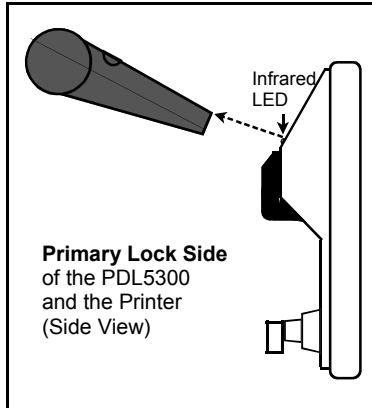
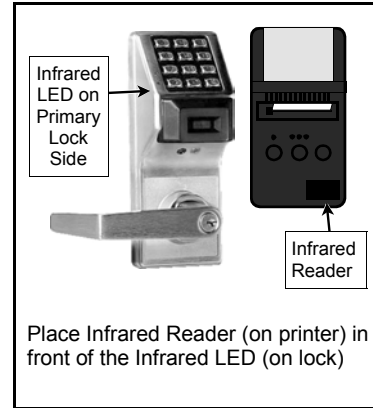

Figure 1
Figure 2
Hold the printer perpendicular to the **Primary Lock side** infrared LED as shown in Figure 1 and Figure 2. If the printer has been idle for some time, press the paper feed button to wake up the printer.
Hold the printer over the lock's infrared sensor as shown in Figure 1 and Figure 2 above. Twenty (20) events will print at a time; press 1 for more events, or 9 to quit. To abort printing, press any key for 3 seconds (three short beeps will sound).
Hold the printer over the lock's infrared sensor as shown in Figure 1 and Figure 2 above. To abort printing, press any key for 3 seconds (three short beeps will sound).
Hold the printer over the lock's infrared sensor as shown in Figure 1 and Figure 2 above.